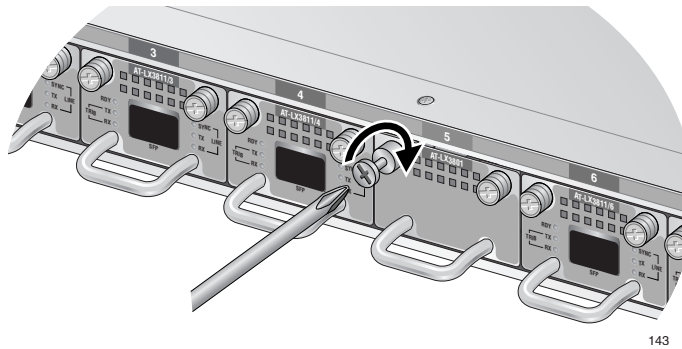

Figure 30. Tightening the Captive Screws
- Use a Phillips head screwdriver to tighten the captive screws, as shown in Figure 30.